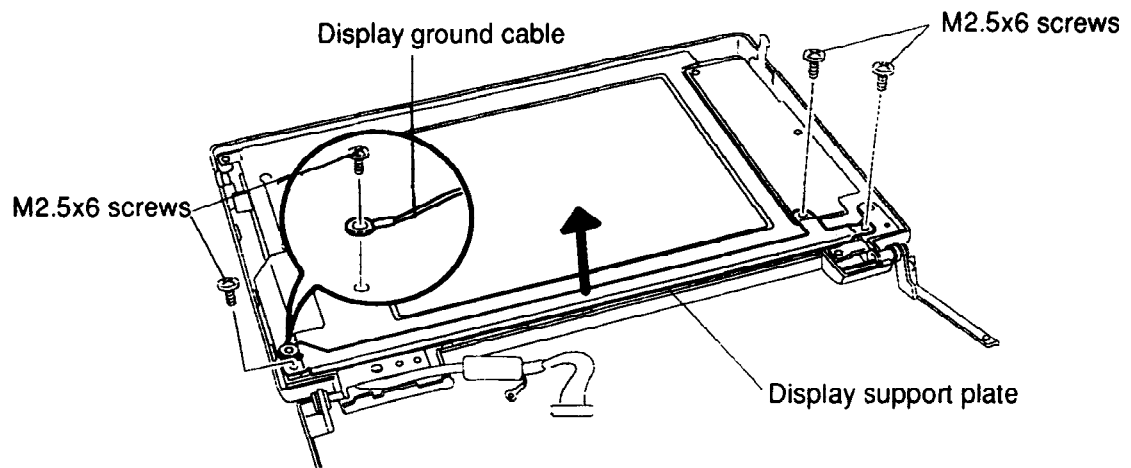

Figure 4-26 Removing the Display Support Plate
To remove the T1900C's FL inverter board, follow the steps below and refer to Figures 4-26 and 4-27.
3. Remove the four **M2.5x6 screws** securing the **display support plate** (Figure 4-26).
To install the T1900C's FL inverter board, follow the steps below and refer to Figures 4-26 and 4-27.
4. Set the **display support plate** in place and secure it with **four M2.5x6 screws**. One screw also secures the **display ground cable** (Figure 4-26).